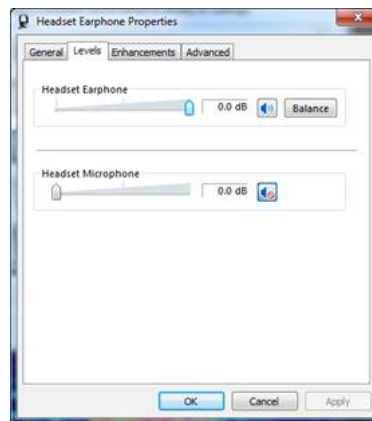

Figure 3—Headset Earphone Level Settings.
Step 4: select the Levels tab and adjust the Headset Earphone level to 100% or 0.0 dB as shown in Figure 3. This is the best choice because then all audio level control can be done in PowerSDR without losing any dynamic range. *Note: you can change from percent to dB by right clicking in the numerical display box.*